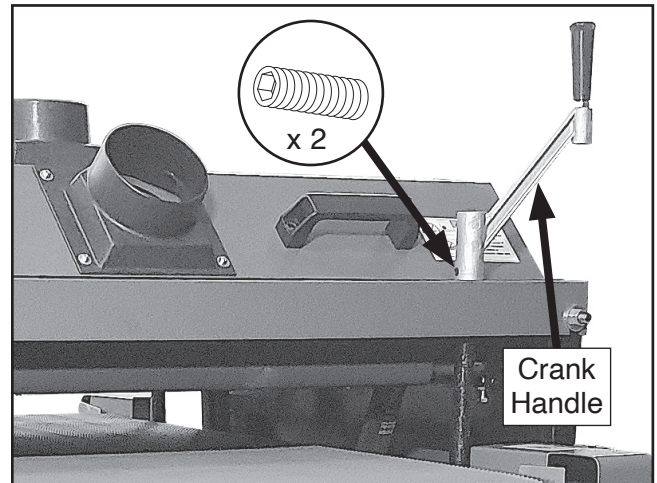

Figure 15. Crank handle attached to right front leadscrew shaft (G1066R shown).
3. Attach crank handle (see **Figure 15**) to leadscrew shaft and secure with (2) pre-installed set screws. Crank handle may be attached to leadscrew on left, right, front or rear of machine, depending on operator preference.